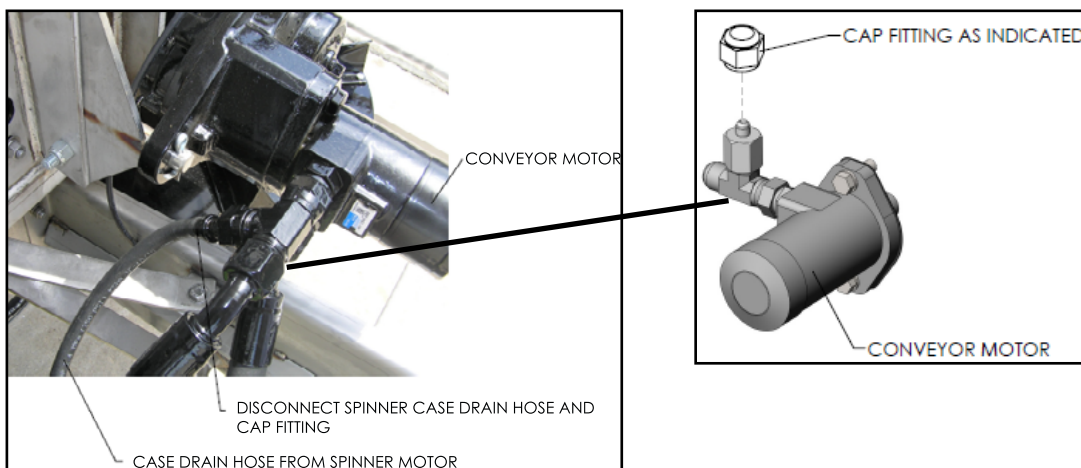

Figure 6 - Disconnect Case Drain
3. Disconnect case drain from conveyor motor and cap fitting (Figure 6).